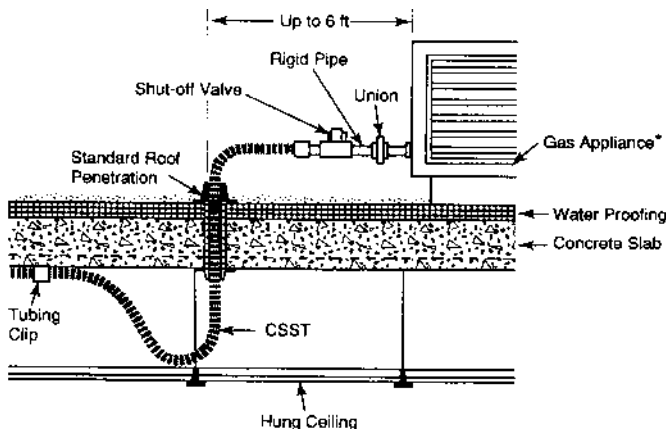

Figure: 4-16 Short (1-6 foot) outdoor connection to roof mounted equipment
2. No special mechanical protection of the piping is required for connection to roof top equipment. Whenever possible, roof penetrations shall be located within 6 feet of the equipment to be connected as shown in Figure: 4-16. Long runs of tubing shall be supported with non-metallic blocks at the support interval listed in Table: 4-2, and raised above the roof a distance